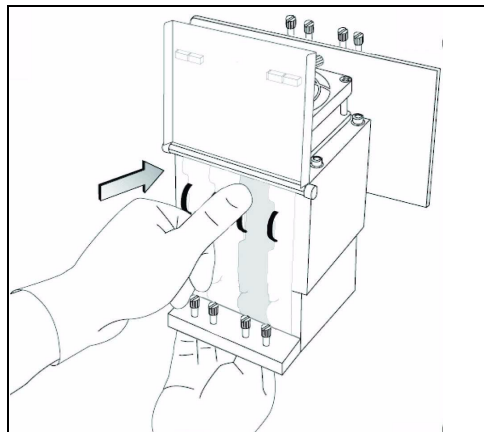

Figure 7-45: Inserting the printing-head driver card into its socket
- b. Re-insert the printing-head driver card into its socket (see figure 7-45 on page 7-29).